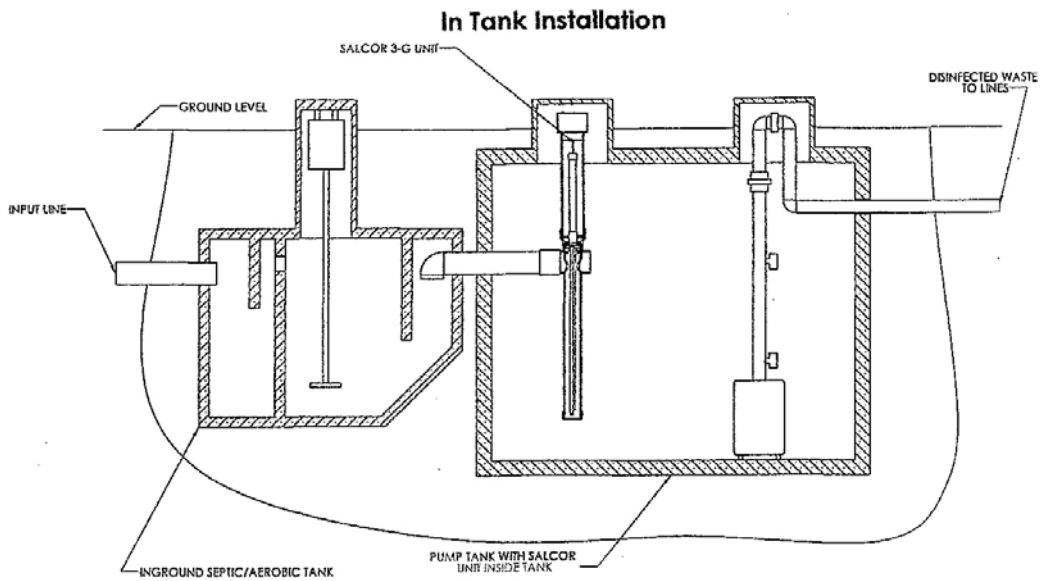

Figure 3
2. In a Pump Tank: couple the UV unit inlet pipe to the pretreatment unit exit pipe at the entrance of the pump tank. See ***Figure 3***.